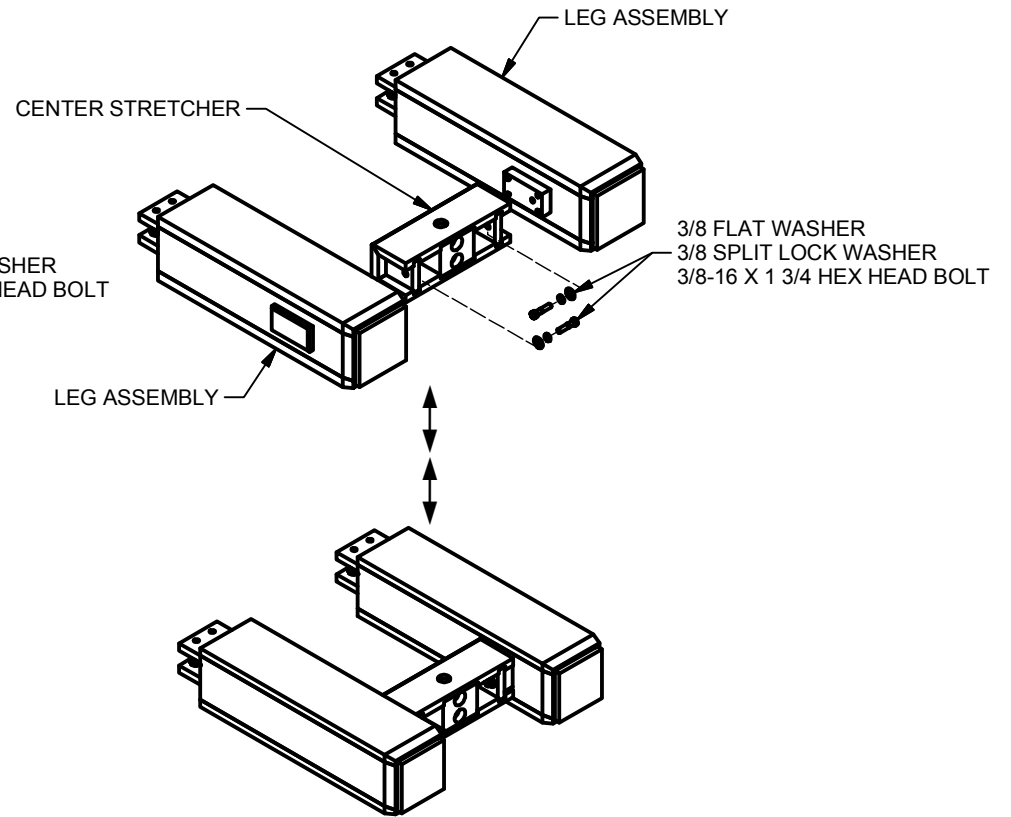

FIGURE 2
Step 3: Assemble (2)legs and (1)short center stretcher using (2)3/8-16 x 1 3/4 hex head bolt, (2) 3/8 flat washer, and (2)3/8 split lock washer as shown in FIGURE 2.(CENTER ASSEMBLY)